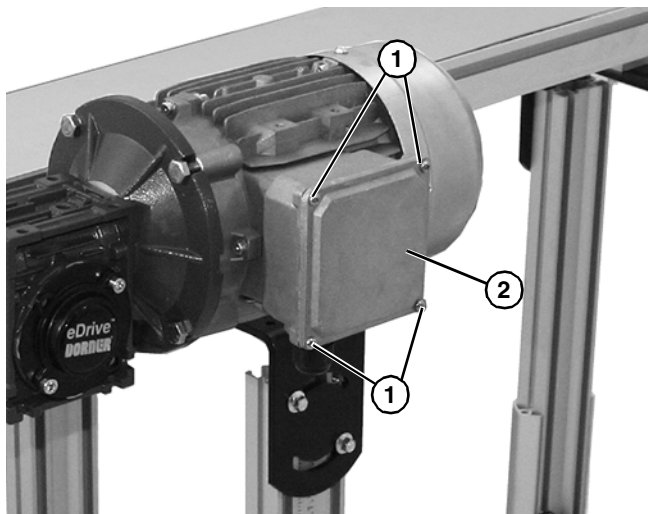

Figure 27
- a. Loosen terminal box screws (**Figure 27, item 1**) and remove cover (**Figure 27, item 2**).